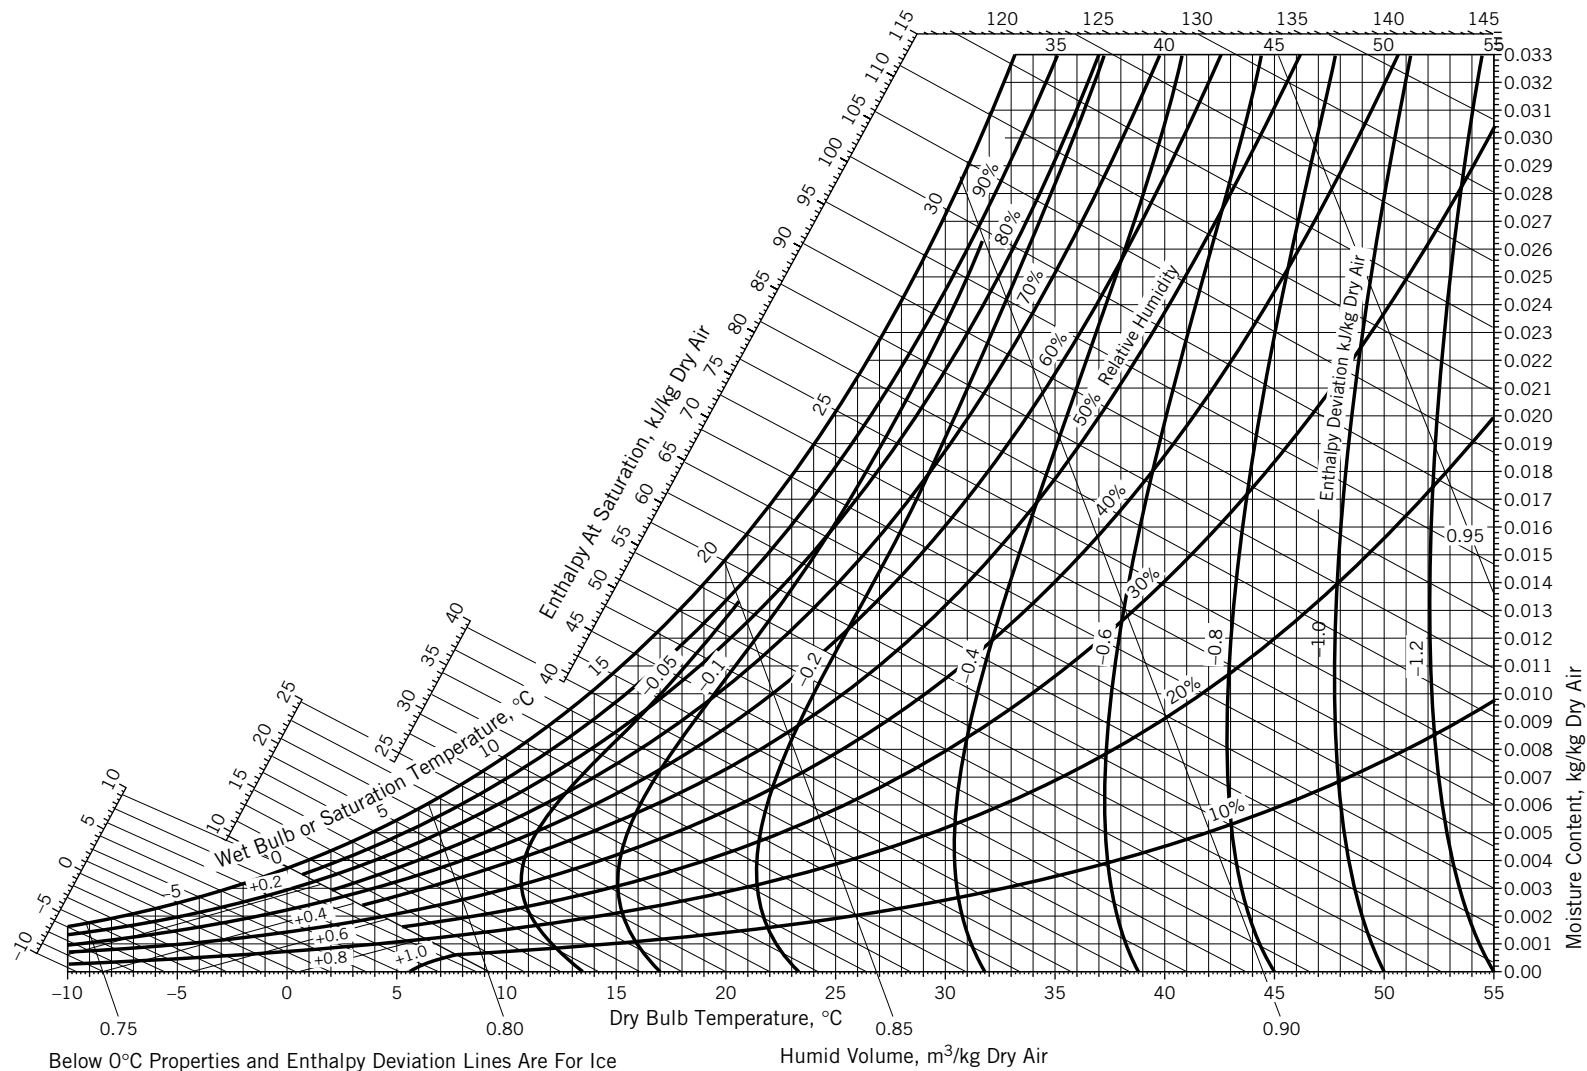

Figure 8.4-1 Psychrometric chart—SI units. Reference states: H₂O (L, 0°C, 1 atm), dry air (0°C, 1 atm). (Reprinted with permission of Carrier Corporation.)
A psychrometric chart in SI units for the air–water system at 1 atm is shown in Figure 8.4-1, and a second chart in American engineering units is shown in Figure 8.4-2. Charts that cover wider temperature ranges are given on pp. 12-4 through 12-7 of *Perry's Chemical Engineers' Handbook* (see footnote 5).
- **Absolute humidity, h_a** [kg H₂O(v)/kg DA] (called **moisture content** on Figure 8.4-1)—the ordinate of the chart.
The dew point of humid air at a given point on the psychrometric chart can easily be determined. For example, locate the point on Figure 8.4-1 corresponding to air at 29°C and 20% relative humidity. Cooling this air at constant pressure ($= 1 \text{ atm}$) corresponds to moving horizontally (at constant absolute humidity) to the saturation curve. T_{dp} is the temperature at the intersection, or 4°C. (Verify this statement.)
The humid volume is the volume occupied by 1 kg of dry air plus the water vapor that accompanies it. Lines of constant humid volume on the psychrometric chart are steep and have negative slopes. On Figure 8.4-1, humid volume lines are shown corresponding to 0.75, 0.80, 0.85, and 0.90 $\text{m}^3/\text{kg dry air}$.
To determine the volume of a given mass of wet air using the psychrometric chart, you must first determine the corresponding mass of dry air from the absolute humidity, then multiply this mass by \hat{V}_H . Suppose, for example, you wish to know the volume occupied by 150 kg of humid air at $T = 30^\circ\text{C}$ and $h_r = 30\%$. From Figure 8.4-1, $h_a = 0.0080 \text{ kg H}_2\text{O(v)}/\text{kg DA}$ and $\hat{V}_H \approx 0.87 \text{ m}^3/\text{kg DA}$. The volume may then be calculated as
The humid air conditions that correspond to a given wet-bulb temperature fall on a straight line on the psychrometric chart, called a **constant wet-bulb temperature line**. The constant wet-bulb temperature lines for air–water at 1 atm appear on Figures 8.4-1 and 8.4-2 as lines with negative slopes extending beyond the saturation curve that are less steep than the lines of constant humid volume. The value of T_{wb} corresponding to a given line can be read at the intersection of the line with the saturation curve.
For example, suppose you wish to determine the wet-bulb temperature of air at 30°C (dry bulb) with a relative humidity of 30%. Locate the point on Figure 8.4-1 at the intersection of the vertical line corresponding to $T = 30^\circ\text{C}$ and the curve corresponding to $h_r = 30\%$. The diagonal line through the point is the constant wet-bulb temperature line for air at the given condition. Follow that line upward to the left until you reach the saturation curve. The temperature value you read on the curve (or vertically down from it on the abscissa) is the wet-bulb temperature of the air. You should get a value of 18°C. This means that if you wrap a wet wick around a thermometer bulb and blow air with $T = 30^\circ\text{C}$ and $h_r = 30\%$ past the bulb, the thermometer reading will drop and eventually stabilize at 18°C.
The diagonal scale above the saturation curve on the psychrometric chart shows the enthalpy of a unit mass (1 kg or 1 lb_m) of dry air plus the water vapor it contains at saturation. The reference states are liquid water at 1 atm and 0°C (32°F) and dry air at 1 atm and 0°C (Figure 8.4-1) or 0°F (Figure 8.4-2). To determine the enthalpy from the chart, follow the constant wet-bulb temperature line from the saturation curve at the desired temperature to the enthalpy scale.
For example, saturated air at 25°C and 1 atm—which has an absolute humidity $h_a = 0.0202$ kg H₂O/kg DA—has a specific enthalpy of 76.5 kJ/kg DA. (Verify these values of both h_a and \hat{H} on Figure 8.4-1.) The enthalpy is the sum of the enthalpy changes for 1.00 kg dry air and 0.0202 kg water going from their reference conditions to 25°C. The computation shown below uses heat capacity data from Table B.2 for air and data from the steam tables (Table B.5) for water.
The remaining curves on the psychrometric chart are almost vertical and convex to the left, with labeled values (on Figure 8.4-1) of -0.05 , -0.1 , -0.2 , and so on. (The units of these numbers are kJ/kg DA). These curves are used to determine the enthalpy of humid air that is not saturated. The procedure is as follows: (a) locate the point on the chart corresponding to air at its specified condition; (b) interpolate to estimate the enthalpy deviation at this point;
Specifying three intensive variables therefore fixes all other system properties. If the system pressure is fixed at 1 atm, then all other properties may be plotted on a two-dimensional plot, such as those shown in Figures 8.4-1 and 8.4-2.
Following is a sketch of the psychrometric chart (Figure 8.4-1) showing the given state of the air:
2. Moles of humid air. From Figure 8.4-1, the humid volume of the air is $0.897 \text{ m}^3/\text{kg DA}$. We therefore calculate